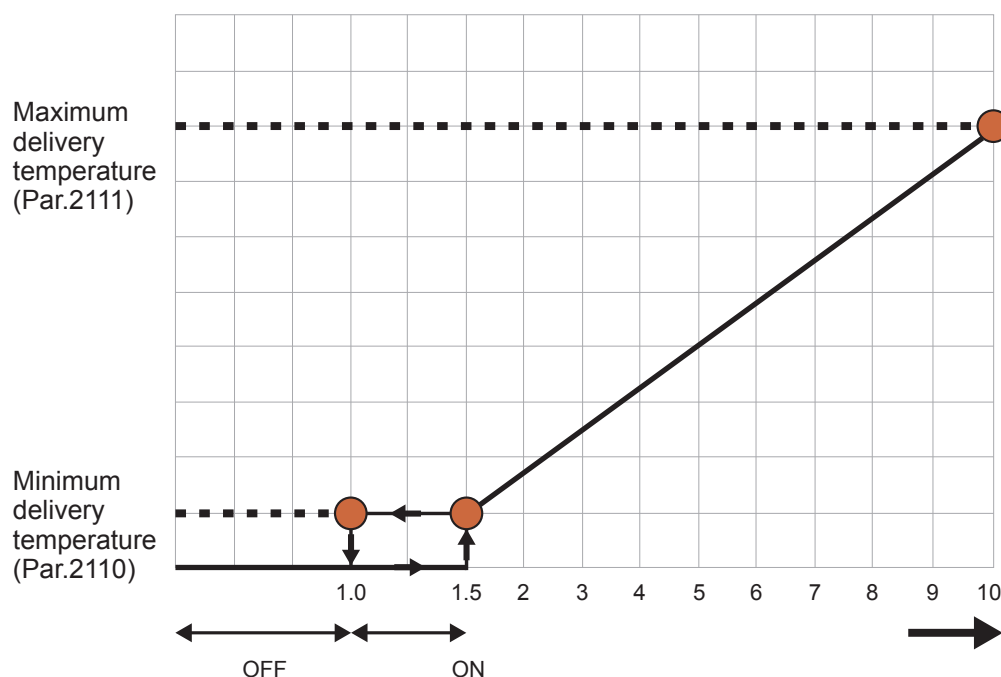

Figure 5-9 – Operating rules for 0-10 VDC analogue input
- 2.- Now the boiler can be controlled via the 0-10 VDC signal according to the rules shown in figure 5-9;